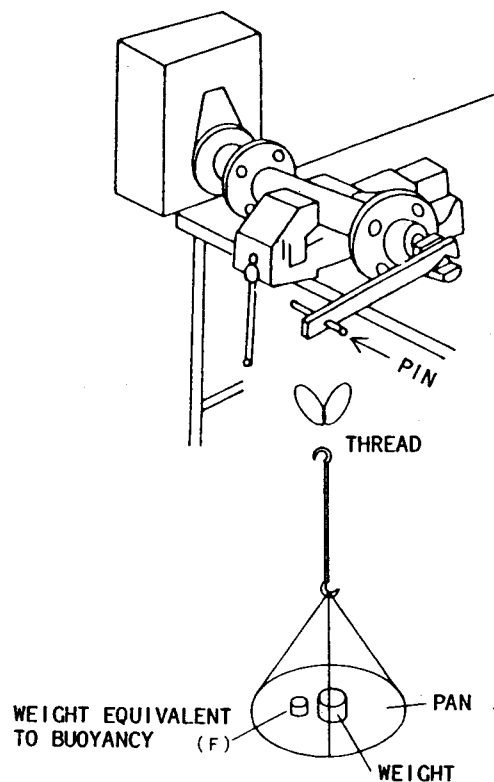

Figure 4-2
- (1) Fix the torque tube assembly together with the transmitter to a bench by using, for example, a vice as shown in Figure 4-2.
- (2) Prepare a weighing pan as shown in Figure 4-2 and hang it on the pin at the end of the torque tube using a thread or fine wire looped into two circlets.
- (8) If the output pressure is shifted from 100%, adjust the SPAN ADJ boss at the bottom of the feedback bellows as follows: